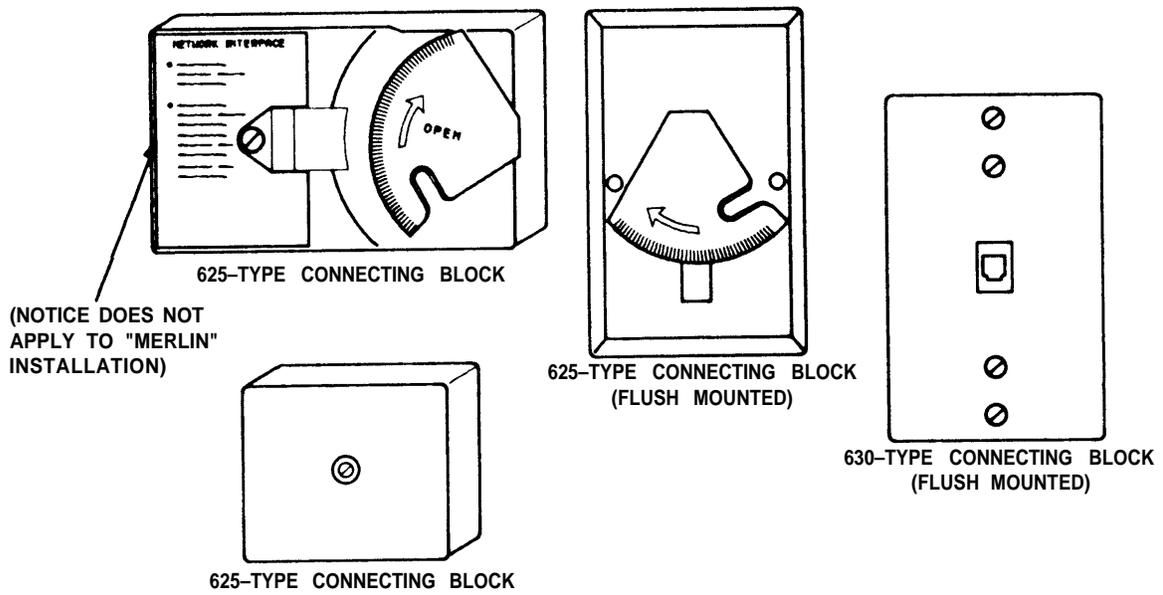

Figure 4
1. Locate the network interface (that is, the place where the local telephone exchange service company lines enter the building). The interface may look like one of the following (Figure 4):